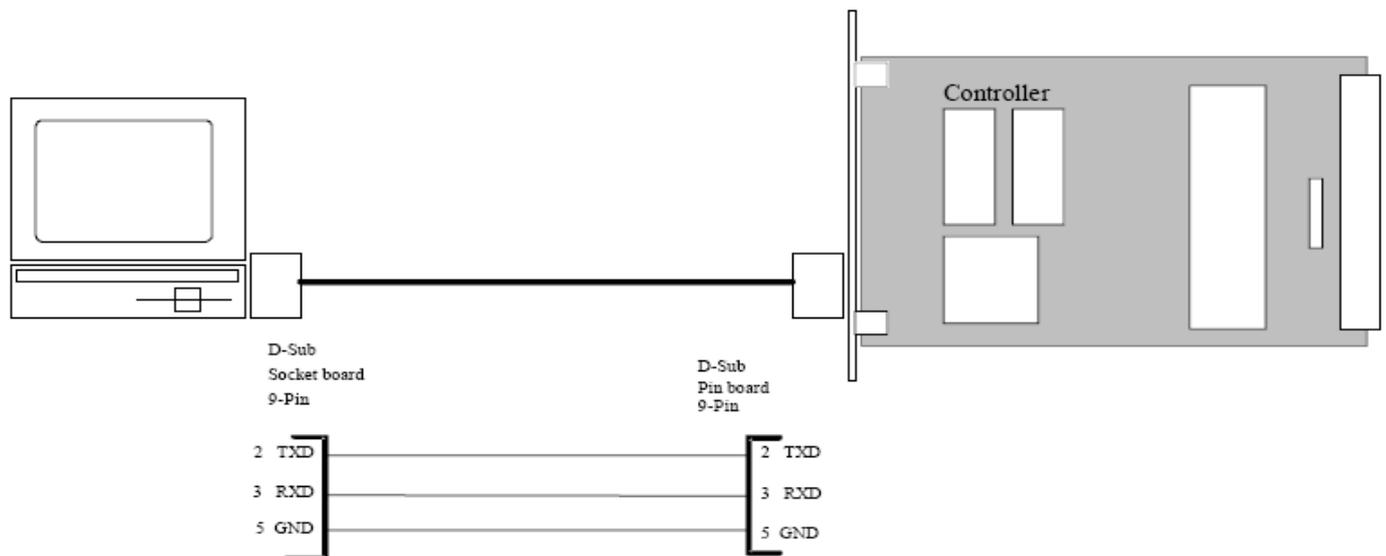

Fig. 5: Connection of the controller with a PC or a terminal
**Fig 5** shows an example of how the card should be connected. The command value is an assumed pilot controller signal of 4-20mA. Such a signal may also come directly from the PLC control. The actual value transmitter is an assumed transmitter with 4-20mA signal output.